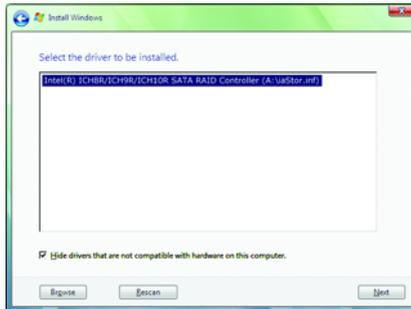

Figure 10
When a screen as shown in Figure 10 appears, select **Intel(R) ICH8R/ICH9R/ICH10R SATA RAID Controller (A:\u002FiaStor.inf)** and press **Next**.